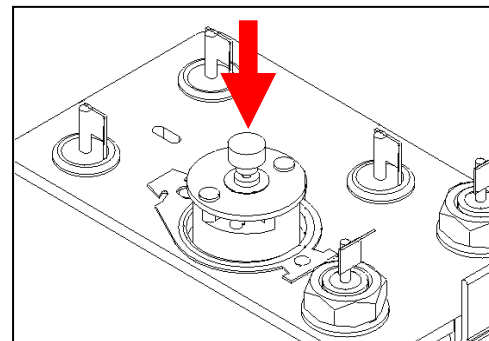

Figure 2 - Reset the thermal cut-off switch.
- d) Press the “reset” button on the thermal cut-off switch (figure 2).